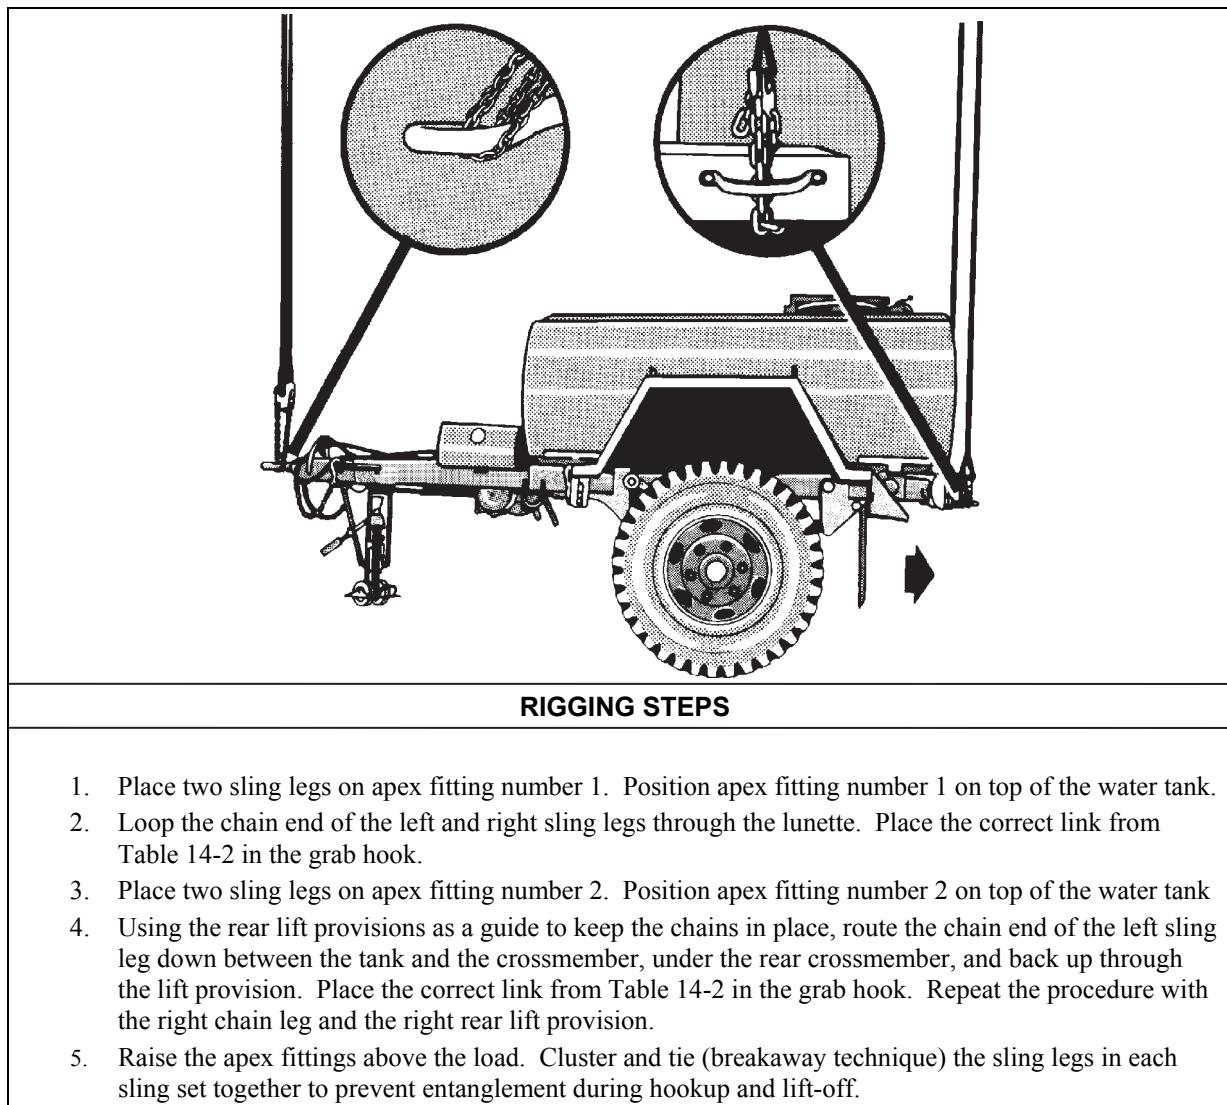

Figure 14-2. M149-Series Water Trailer
- **Rigging.** Rig the load according to the steps in Figure 14-2.